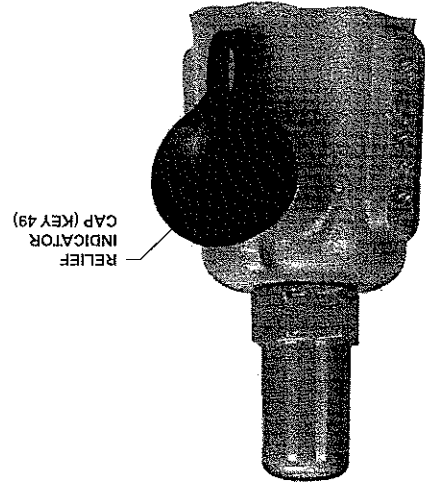

Figure 4. Relief Indicator
The vent assembly is equipped with a relief indicator (key 49, Figure 4). The cap for the relief indicator snaps over the vent assembly opening. If the relief valve opens wide, exhaust gas pops the cap off the screen vent assembly opening indicating a problem with the regulator. If the cap pops off, refer to the shutdown and to the Body Area Maintenance Procedures to inspect the disk assembly and seat ring. If the disk assembly and seat ring are not damaged, refer to the Diaphragm and Spring Case Area Maintenance Procedures in this section.